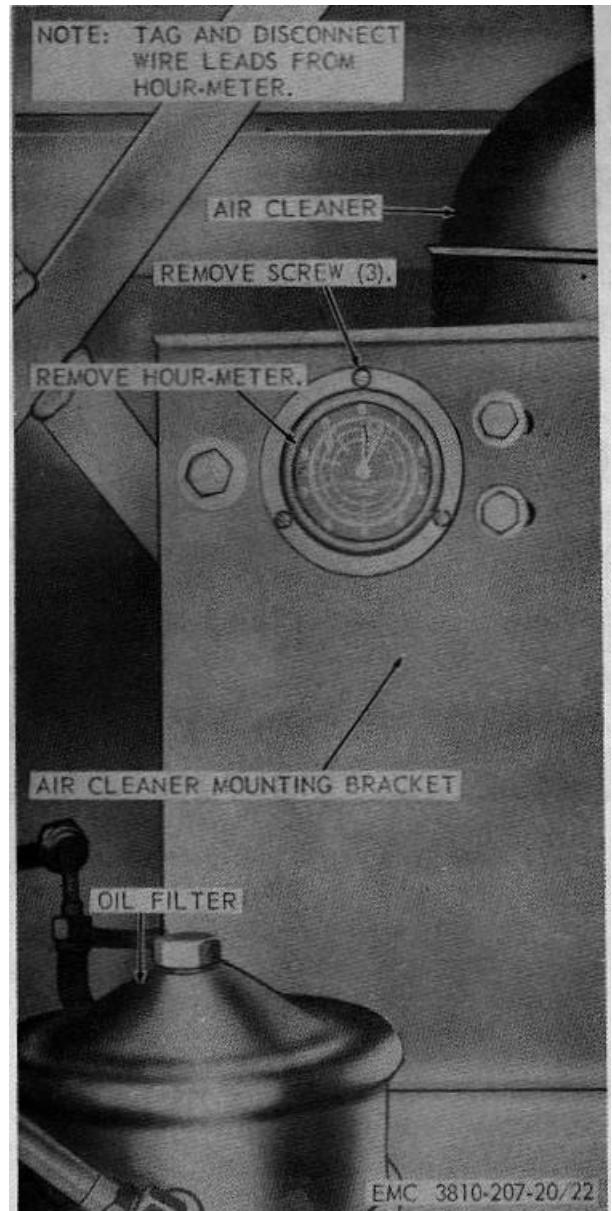

Figure 22. Hour-meter, removal and installation.
a. *Removal.* Remove the hour-meter as instructed on figure 22.
- (1) Clean the hour-meter with a cloth dampened with an approved cleaning solvent.
- (2) Inspect the hour-meter for breaks, proper operation, and other damage. Replace defective hour-meter.
c. *Installation.* Install the hour-meter as illustrated on figure 22.